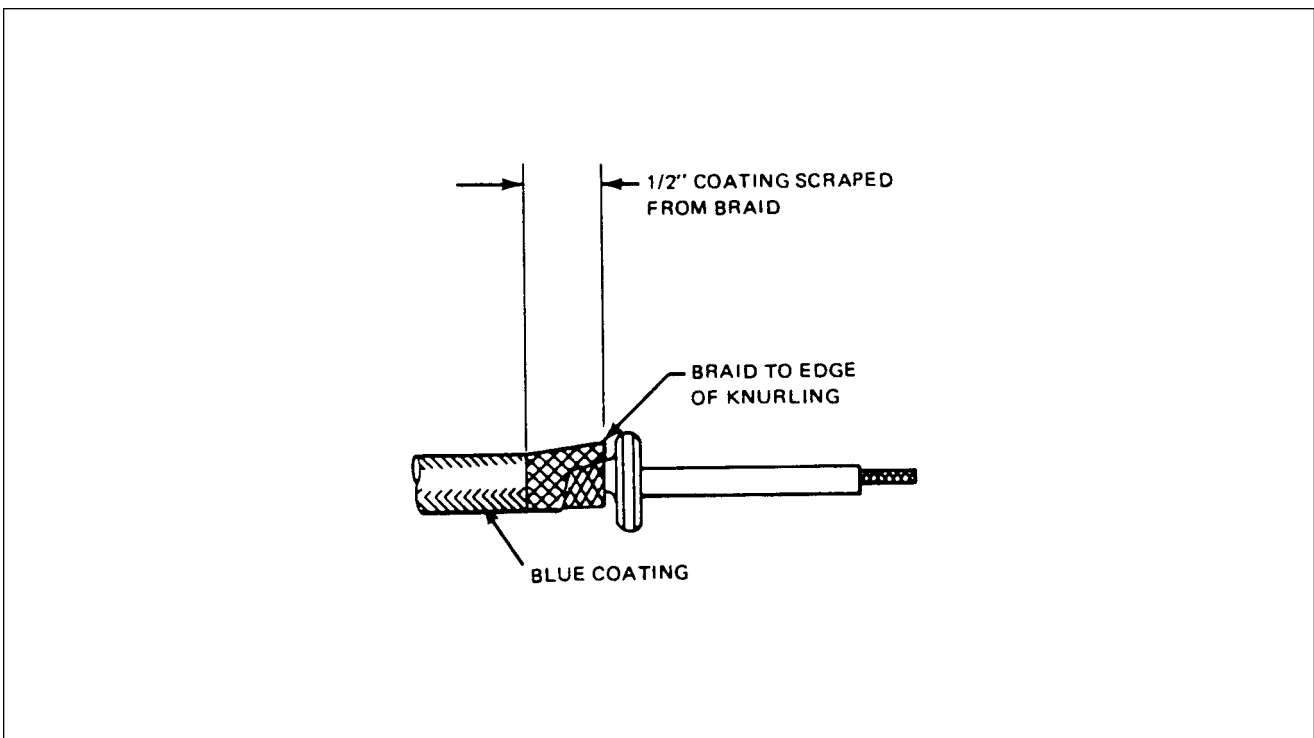

Figure 74-26. Ferrule Positioned Under Braid
- f. Push back braid and thread a new ferrule over wire and under braid until braid just covers knurling. (Refer to figure 74-26.)